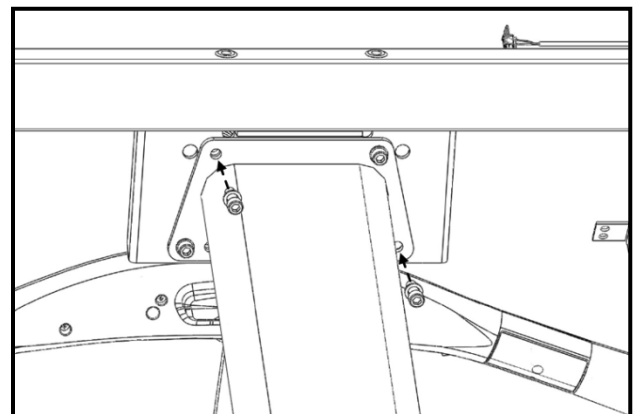

Fig. 12
12. Loosely thread four socket head cap screws (Fig. 12) with washers through the neck mast mount plate on to the console frame mount plate.